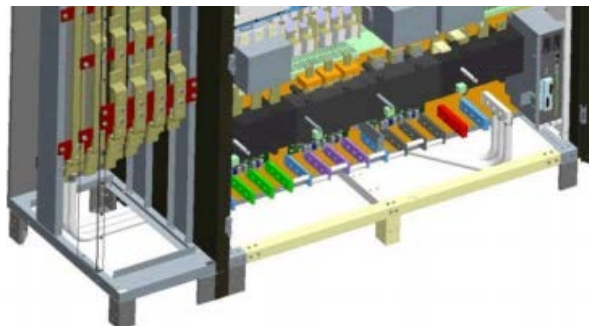

Figure 3.19
For reasons described earlier, the UPS power connections are usually made using several cables connected in parallel rather than using a single large cable. The connections at each end of the busbars therefore have two, offset M12 holes through which the cable can be attached. Figure 3.19 shows the recommended method of connecting three parallel cables.
1. Connect the battery negative cables to the TCE enclosure battery negative busbar (see also Figure 3.19).